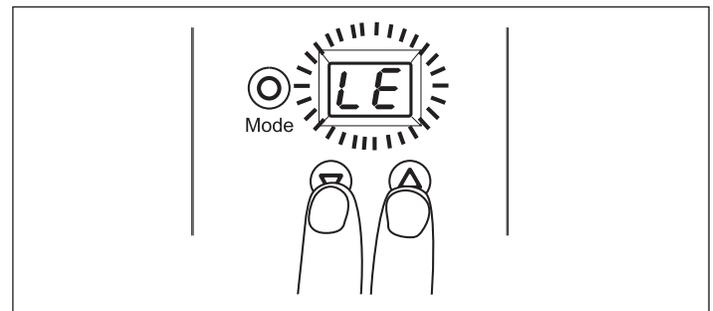

Figure 3
In order to unlock the menu, simultaneously press the  and  buttons for about 3 seconds. There will be a short beep and the display starts flashing to signal that the menu is unlocked. (See Figure 3)
**Note: The FloodBreaker is shipped with the Vacation Leak Protection (UL) setting active. Vacation Leak Protection will override the Standard Leak Protection (LE) and must be deactivated (See section 5.5) for the Standard Leak Protection to be active.**
1. Unlock the menu per previous instructions in section 4.1 (Figure 3); either LE or UL will be flashing on the display screen.